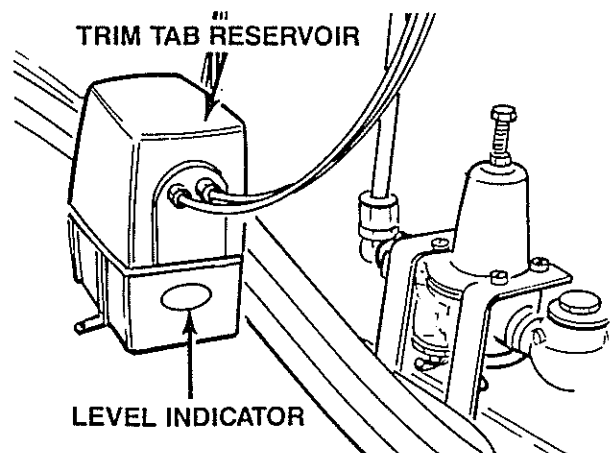

Figure 3-10 Trim Tab Reservoir
14. See Figure 3-10. Check that the fluid level in the trim tab reservoir is between "FULL" and "ADD" marks. The reservoir is located outboard of the port engine.